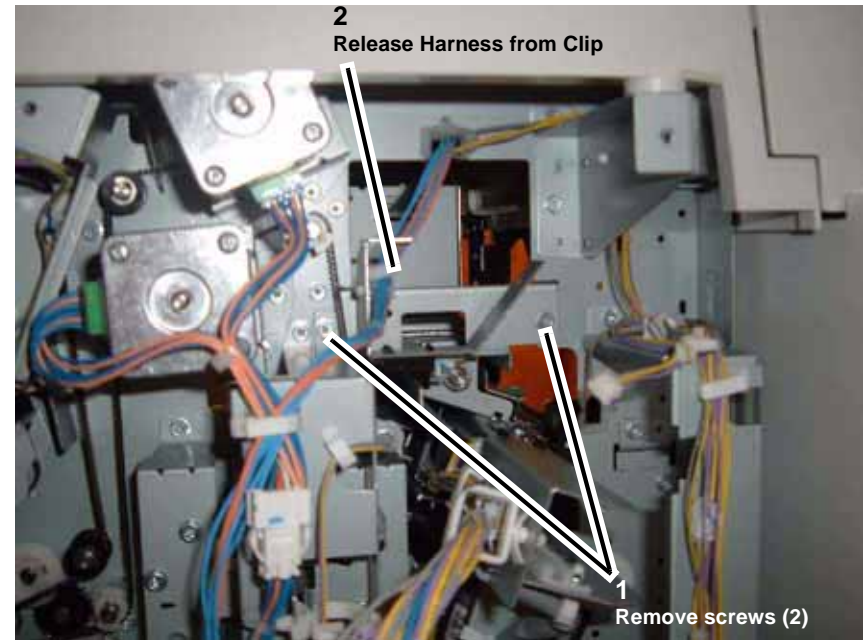

Figure 3 Removing screws and Harness
5. Remove screws and Wire Harness (Figure 3).